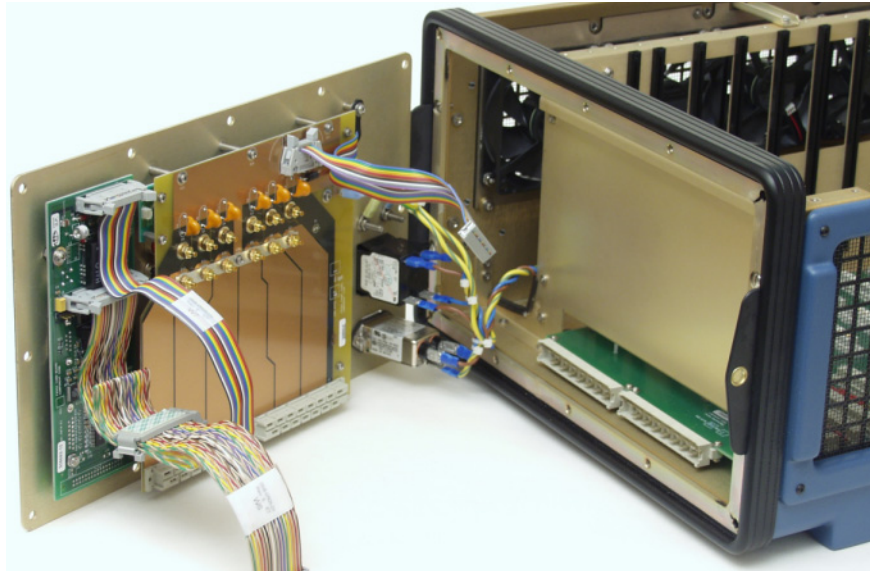

Figure 5.4 F6300 with Front Panel Swung to Side
1. Remove the 12 hex-head screws from the front panel (Figure 5.4).